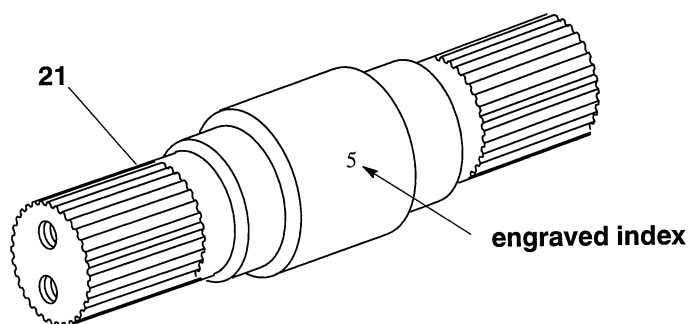

FIGURE 24
- On the main shaft with splines, item 21 (figure 24), identify the index which is engraved on the central part :